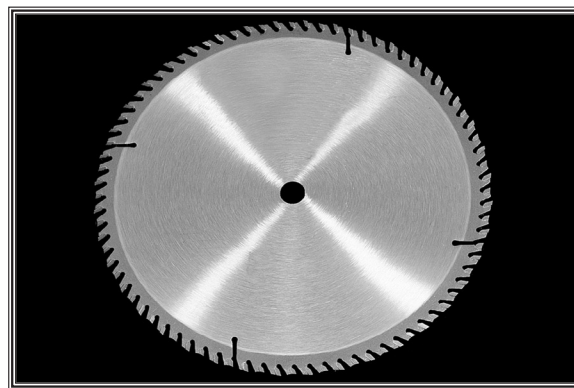

Figure 36. Plywood blade.
- Plywood blades (**Figure 36**) have a large number of teeth, have a thin kerf and create exceptionally smooth cuts. As the name implies, these types of blades are excellent for fine plywood and also for cutting bevels, rabbets or compound miters. The drawback to this type of blade is the great amount of heat produced from the many teeth. These blades should not be used for heavy ripping or cutting thick stock.